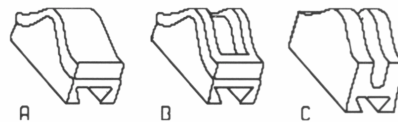

Figure 2
1. Choose an adapter head for the type of fiber to be tested. The **FL-OFI-X** is supplied with three adapters (as shown in Figure 2): (A.) *foam-covered*, to accommodate 900 μm buffered fiber; (B.) *smooth-surfaced with foam perimeter*, for use with ribbon or a 250 μm coated fiber; and (C.) *slotted*, for 3mm and *optional* 2 mm jacketed fiber (i.e., pigtails and jumpers) or loose tube fiber.